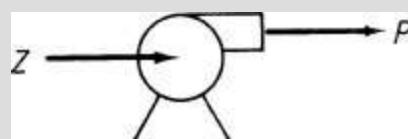

Figure E12.1d
d. Pump (Figure E12.1d): Here $Q = 0$ but W is not.